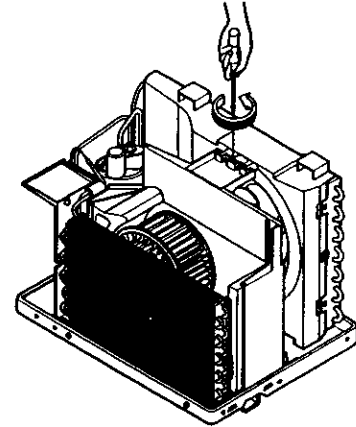

Figure 7
6. Remove the screw that secures shroud and air guide. (Figure 7)